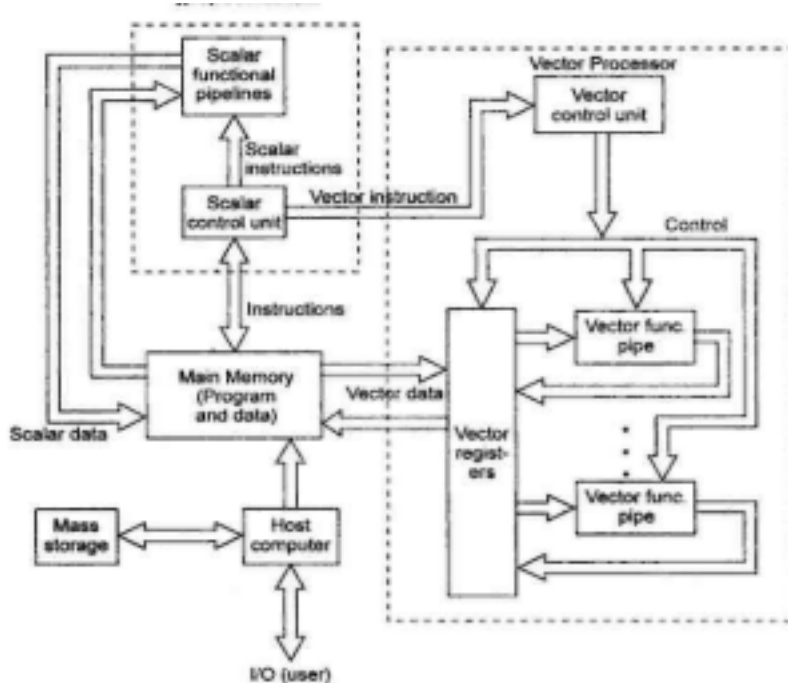

Fig. 1.2 The Architecture of Vector Supercomputer
- Figure 1.2 shows the architecture of a vector supercomputer. As shown in the figure it contains a vector processor attached to a scalar processor, there is a host computer which is used to load the program and data in the main memory.